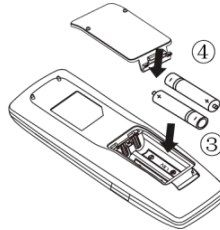

Fig.2
- (3). Place two 7# (AAA 1.5V) dry batteries, and make sure the position of “+” polar and “-” polar is correct (as shown in Fig 2③).
- (4). Reinstall the cover (as shown in Fig 2④).